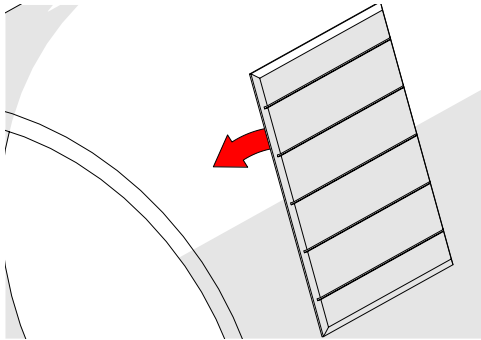

Fig. 303 - Place installation/removal mat
2. Place the installation/removal mat (Fig. 303) on the inspection surface (Fig. 303).